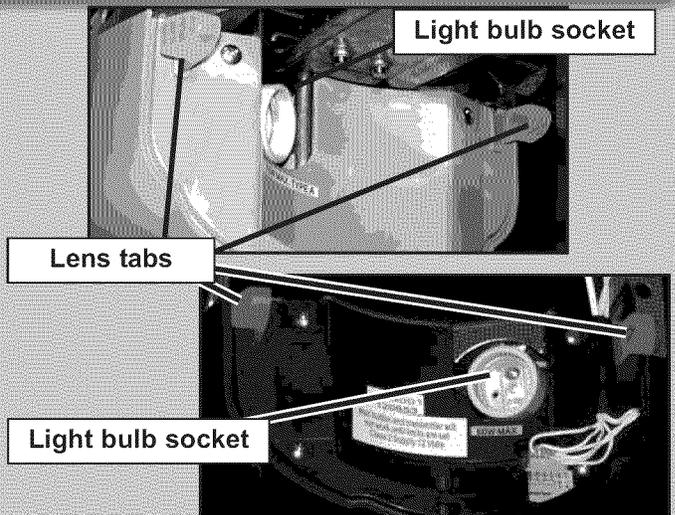

FIG. 9-1 Slide each lens onto motor cover.
- On the power head end nearest the garage door, line up lamp lens tabs on power head with corresponding slots in lens (Fig. 9-1).